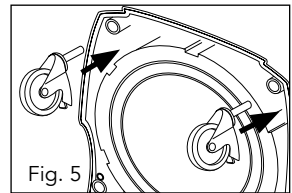

Fig. 5
1. Fit the castors (12) into the appropriate mountings on the underside of the tank (10). Push the castors (12) firmly into the mounting until they engage with a clicking noise (Fig. 5).